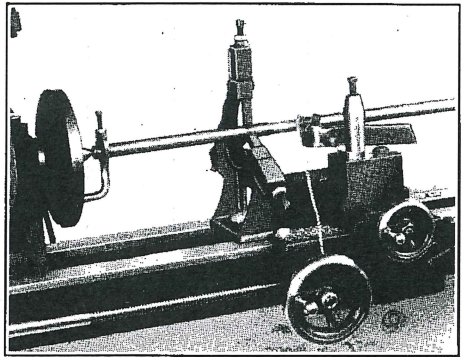

Fig. 8
**TURNING LONG WORK—The Steady Rest.** When turning long work, especially of small diameter, it is necessary to support it along its length. For this purpose a steady rest is essential. (See Fig. 8.) Before placing this steady rest in position, locate the work between centers and turn lightly a concentric spot where the rest is to be placed. Now locate the steady rest, clamping it to the bed, and turn the screws down until they just touch the work. **Make sure there is no excessive pressure.** Too great a pressure on the jaws causes heating and resultant scoring of the work.